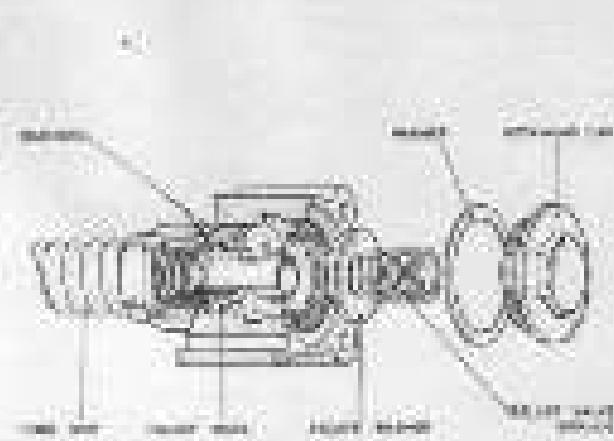

Fig. 12. Internal valve assembly.
4. Hold the oil cooler body in a soft-jawed vice and remove the retaining cap and washer, followed by the relief valve spring and the escape washer, see Fig. 12.